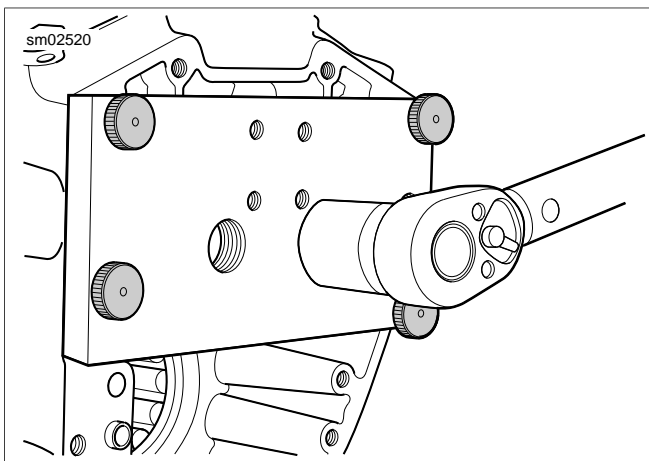

Figure 3-119. 1 Inch (25.4 mm) Bearing Installation
- a. See Figure 3-119. Turn hex at end of installer forcing screw in a clockwise direction to press needle bearing into bore.